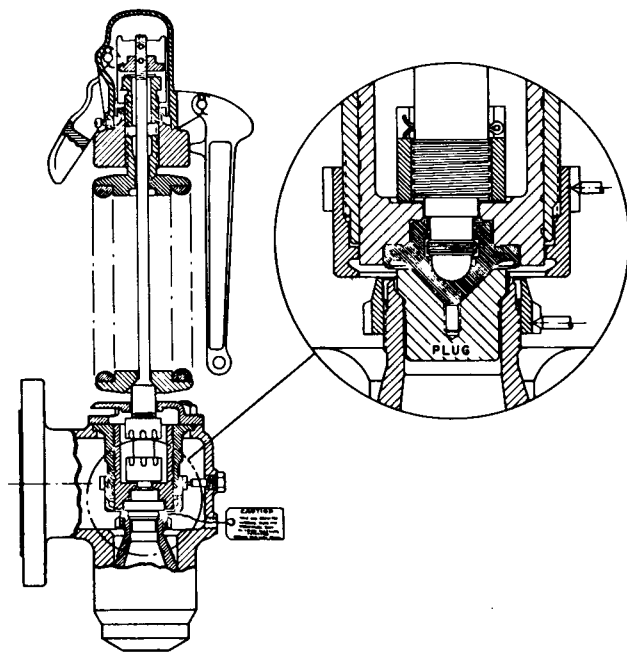

Figure 8
- H. To check ring laps for flatness, wipe all compound off the lapping plate and ring lap. Then use a figure 8 motion of the ring lap on the lapping plate. If the lap is flat there will be no shadow; if there is a shadow, coat the lapping plate with compound and lap the ring lap with a figure 8 motion covering the lapping plate to remove the shadow.
Figure 8 shows a typical Maxiflow Valve as shipped with a hydrostatic test plug and a RED caution tag.